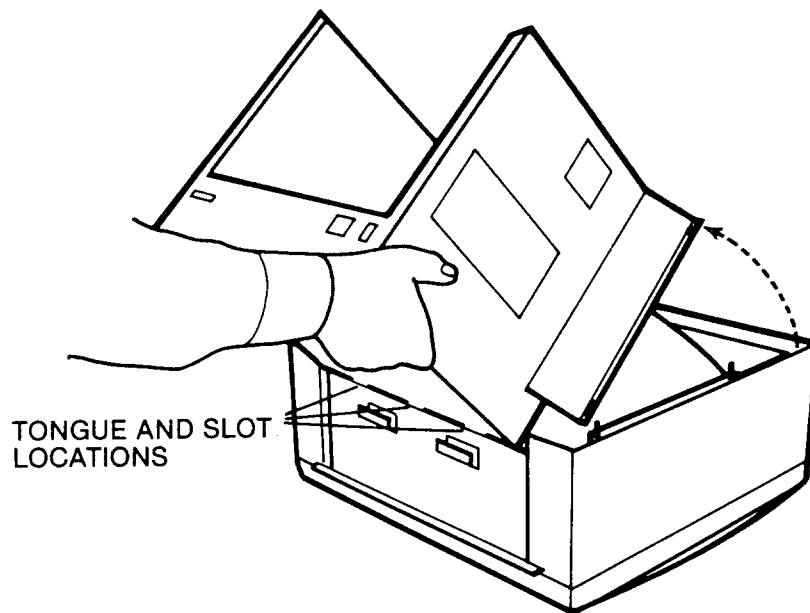

FIG E5 E SERIES CHASSIS REMOVAL
7. Hinge the chassis, pivoting it towards the bottom rear of the cabinet, to disengage the tongue and slot locations shown in Figure E5, E Series: Chassis Removal.